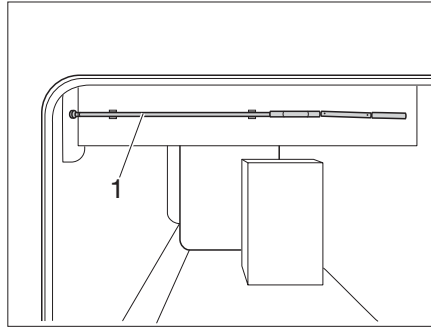

Fig. 135 Crank for height adjustment
- Remove the crank (Fig. 135,1) from the holder.